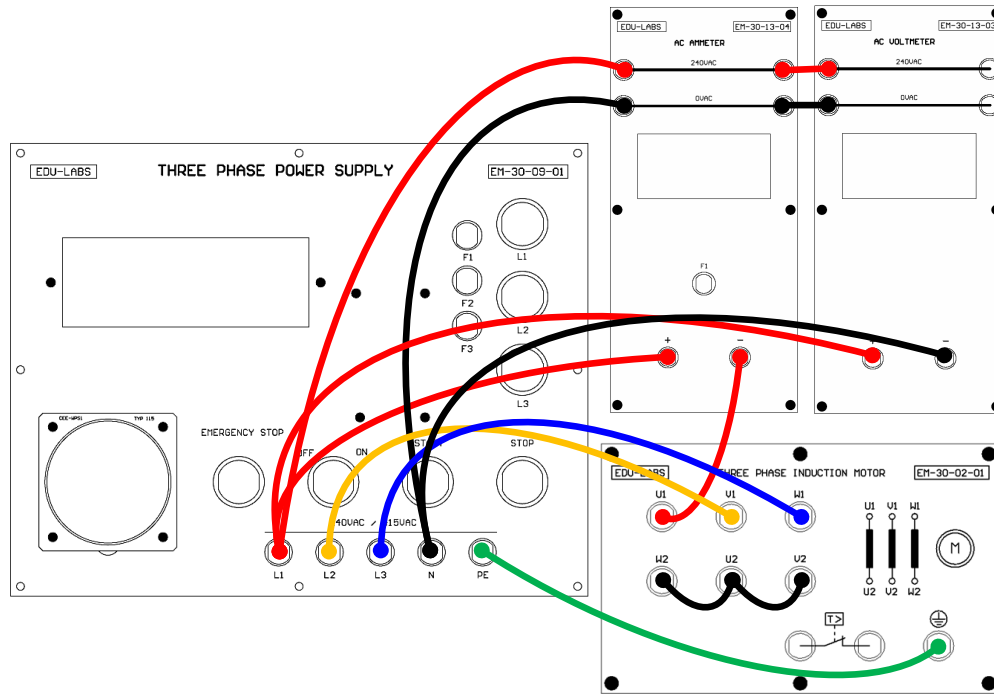

Fig. 1: Star connection
2. Connect the Three Phase Power Supply L1 to the Ammeter before connected to the Three Phase Induction Motor U1, V1, W1 and make sure that the connection is STAR connection in U2, V2, W2 as in Fig.1.